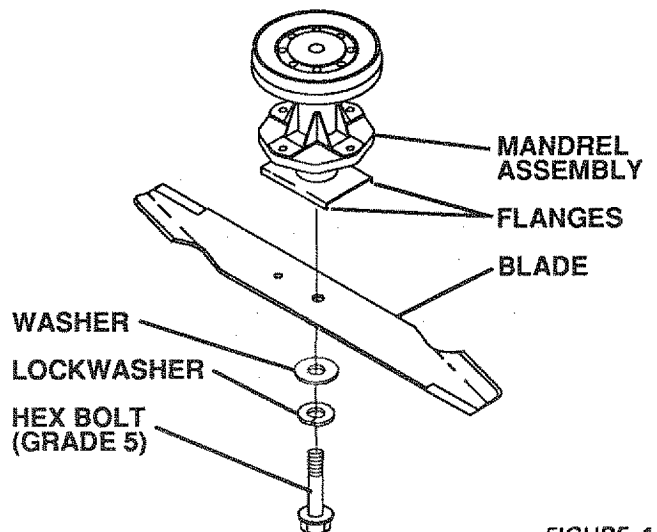

FIGURE 42
- a. Remove bolt, lockwasher and washer (Fig. 42) (turn counterclockwise) (↺).